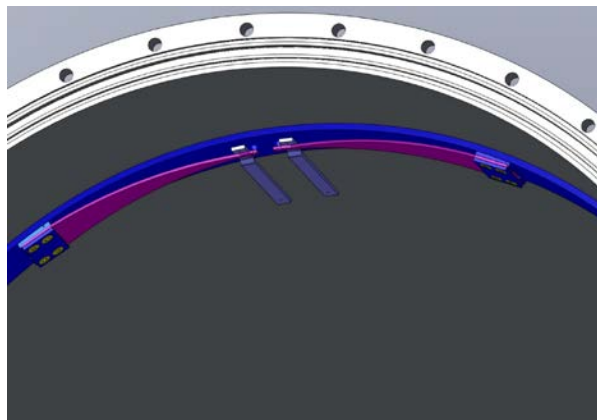

Figure 33: Pre-tensioned Blades Mounted to Ring in spool with Shims.
6. Remove the Bend Fixture Assembly, but do not remove the captured Bend Fixture Shims D1101341, as shown in Figure 33.